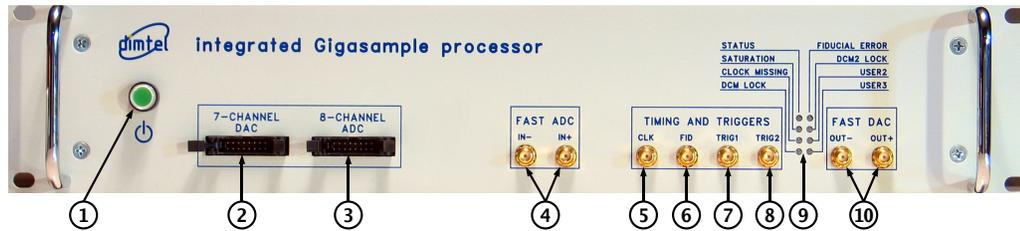

Figure 2: Front panel features
2. Connect RF clock at  $-3$  dBm nominal level (Fig. 2, item 5);
3. Connect single-ended high-speed ADC input signal to **Ain+** (Fig. 2, item 4). The FS swing of this signal should be 190 mV peak-to-peak;
4. Connect a  $50\ \Omega$  terminator to **Ain-** (Fig. 2, item 4);
5. Connect high-speed DAC output(s) (Fig. 2, item 10) to the appropriate back-end unit;
9. Push the power button (Fig 2, item 1) to turn on the system;
11. Push the power button (Fig 2, item 1) to turn the system off;
- Connect the 16-pin ribbon cable between the 7-channel DAC (Fig. 2, item 2) and the 8-channel ADC (Fig. 2, item 3);
- Connect 509 MHz clock to the RF clock input (Fig. 2, item 5);
- Terminate `Ain-` fast ADC input (Fig. 2, item 4);
- Terminate `Aout-` fast DAC output (Fig. 2, item 10);
- Make sure fiducial input is not driven (Fig. 2, item 6);